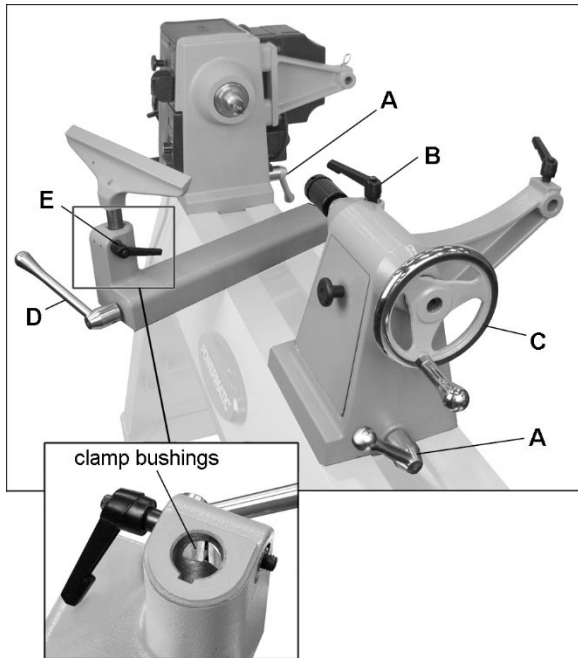

Figure 8-1: headstock, tailstock, tool support
To slide headstock or tailstock, swing locking handle (A, Figure 8-1) backward or forward until head/tailstock can slide freely. When head/tailstock is positioned, swing locking handle until it tightens securely.
Loosen locking handle (B, Figure 8-1) to advance or retract tailstock quill by rotating handwheel (C). Retighten handle (B).
Loosen locking handle (D, Figure 8-1) to slide support base forward or back, and angle it to the bed. Tighten locking handle securely before operating Lathe.
Loosen small handle (E, Figure 8-1). Make sure clamp bushings (inset, Figure 8-1) are properly positioned to accept tool support post.
Locking handles, such as B, Figure 8-1, can be rotated to more convenient position. Lift up on handle, rotate it on pin, then release it, making sure it seats on pin.
2. To remove a center, loosen locking handle (B, Figure 8-1) and retract quill by rotating handwheel counterclockwise until center dislodges on its own. Do not allow center to fall out of spindle, as it may get damaged.